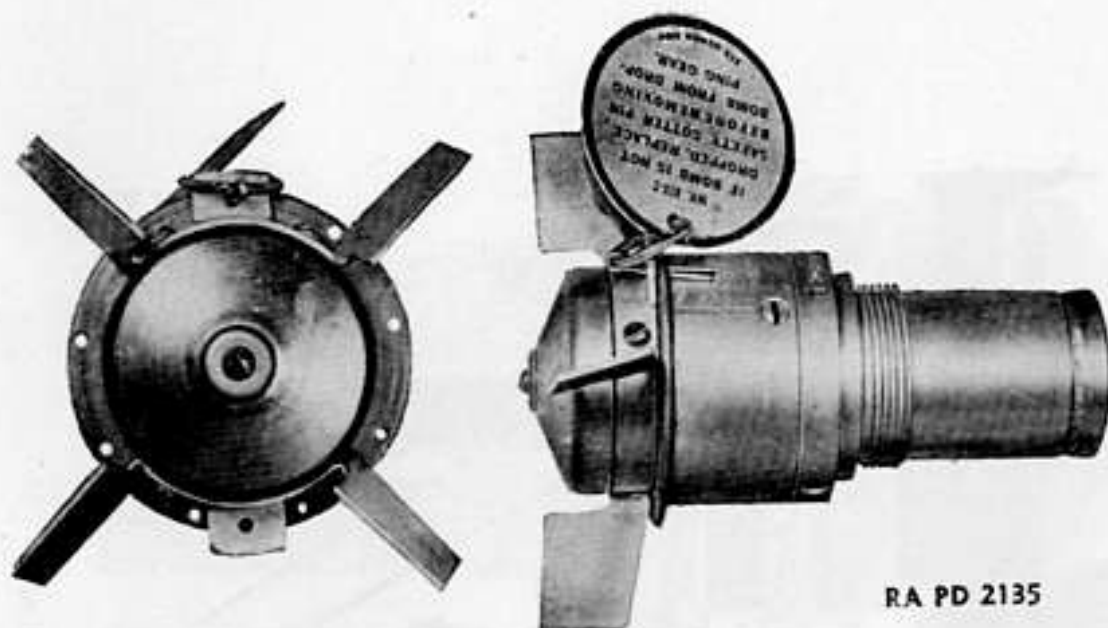

Figure 64. FUZE, bomb, AN-Mk. 219 (nose).
b. **Description.** FUZE, bomb, AN-Mk. 219 (nose) is cylindrical with a flat conical head. (See fig. 64.) Aft of the head, which does not rotate, are the ring-shaped vane carrier, the flange of the striker, the outer sleeve, and the fuze body. Eyelets in lugs on the vane carrier and in the striker flange form the vane stop. The outer sleeve contains a lock screw which holds the arming and firing assembly in the fuze body. (See fig. 65.) The fuze body is a cylindrical cup containing the booster and booster lead. The rest of the fuze mechanism assembled on a central shaft, consists of arming nut, detonator holder, firing pin holder, striker, vane carrier with reduction gears, and head. As shipped, the detonator carrier, the firing pin holder, and striker are out of line with the booster lead and each other and the firing pin is nested in a recess in the striker.